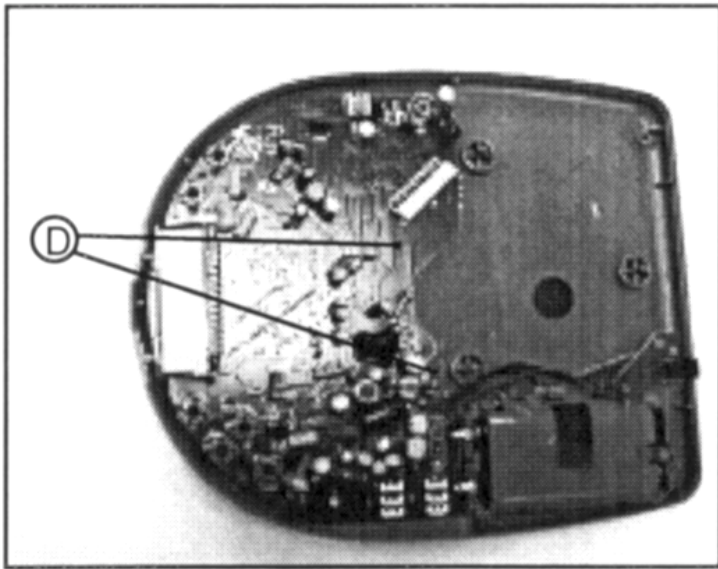

Fig. 5
- Undo 2 screws ④ (Fig. 5)
- Remove Main Board (Fig. 5)